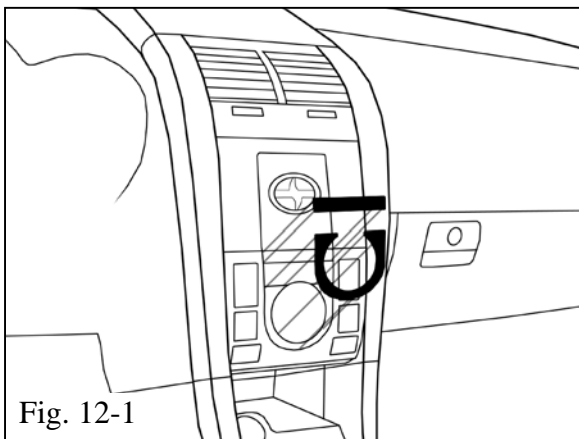

Fig. 12-1
- (1) Align part uniformly to edge of factory component. Edge of appliqué should be flush to edge of factory component,  $\pm 1.0\text{mm}$ . (Fig. 12-1)
- (2) Gently touch part into position.